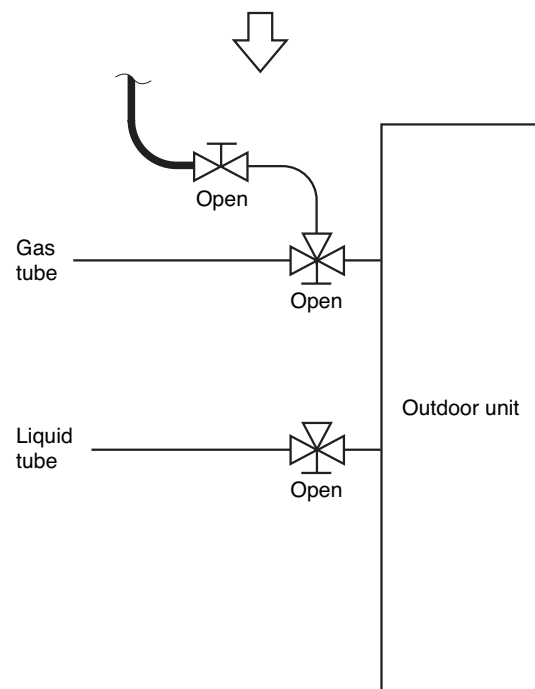

Fig. 10-6
- If the additional refrigerant charge amount cannot be charged at once, charge the remaining refrigerant in liquid form by using the gas tube service valve with the system in Cooling mode at the time of test run. (Fig. 10-6)